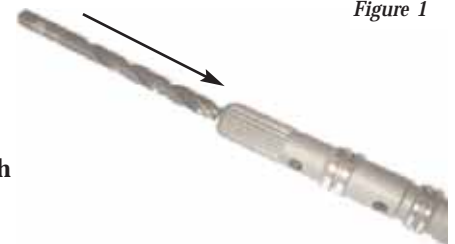

Figure 1
1. Press out the inner tube and end plug by using a $1\frac{1}{64}$ " (.265" diameter) transfer punch or blunted drill bit (Figure 1).